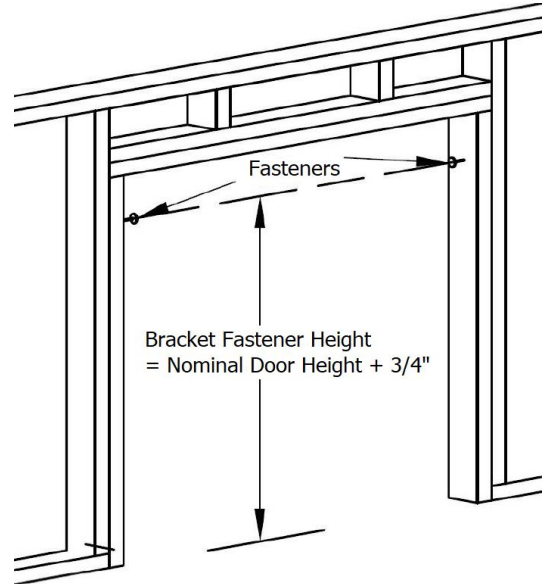

Figure 2
- Using Table 1 or Figure 2, mark the bracket fastener height on each side of the rough opening.